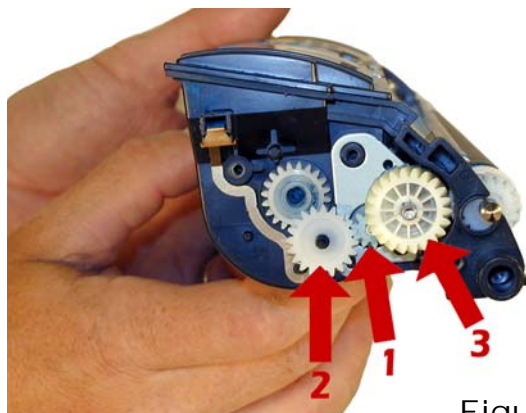

Figure 26
21) Install the three gears smallest to largest in that order. See **Figure 26**